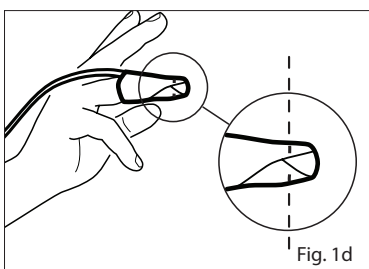

Fig. 1d
5. Refer to Fig. 1d. When properly applied, the emitter and detector should be vertically aligned (the black lines should align). Reposition if necessary.